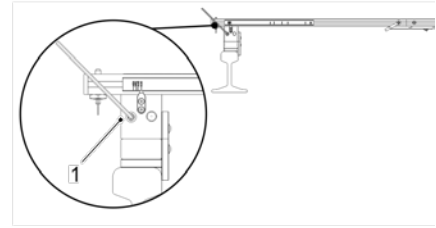

Fig. 2
- When using the optional universal measuring bar, it may be necessary to undo the locking screws (1, Fig. 2) with a hexagon wrench (SW5) on both sides of the measuring bar, then adjust the legs to the corresponding track gage and tighten the locking screws on both sides of the measuring bar.